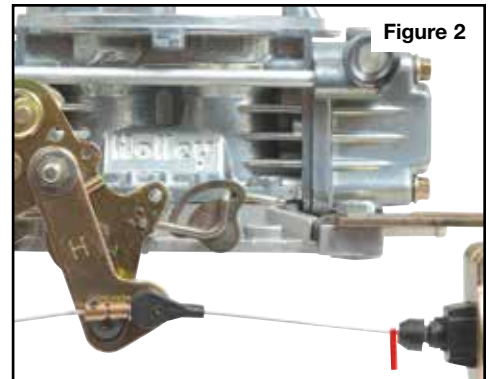

Figure 2
5. **Checks and Verification:** With the throttle in the idle position, mark the cable where it enters the cable housing. Rotate throttle arm and hold in the wide-open throttle position with the cable pulled out of the cable housing. Measure distance between mark on cable and cable housing. Distance should be 1.48" (1-31/64") for the GM 4L60 and Ford AOD (**Figures 2 & 3**, page 2).
should be 1.40" (1-13/32") for the GM 200C and 200-4R (**Figures 2 and 3**).
6. **Checks and Verification:** With the throttle in the idle position, mark the cable where it enters the cable housing. Rotate throttle arm and hold in the wide-open throttle position with the cable pulled out of the cable housing. Measure distance between mark on cable and cable housing. Distance should be 1.40" (1-13/32") for the GM 200 and 200-4R (**Figures 2 and 3**).